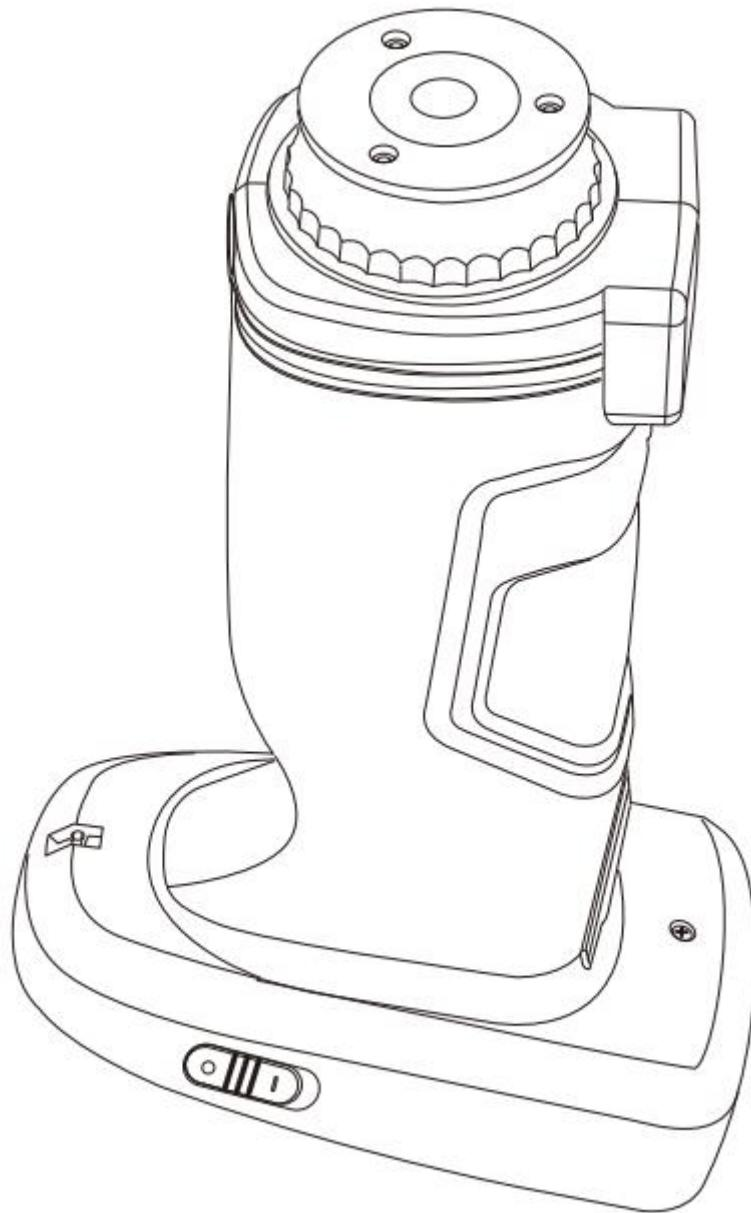

Figure 49 Measurement Aperture
Step 1: As shown in Figure 49, counterclockwise rotates the measurement aperture, and take off it, then install the new aperture clockwise. When there is a voice, it means that the measuring aperture and the integrating sphere button position are well matched, that is, the measuring aperture is installed
Step 2: As shown in Figure 49, if it is Φ4mm aperture, it is required to switch to SAV; if it is Φ8mm aperture, switch to MAV.